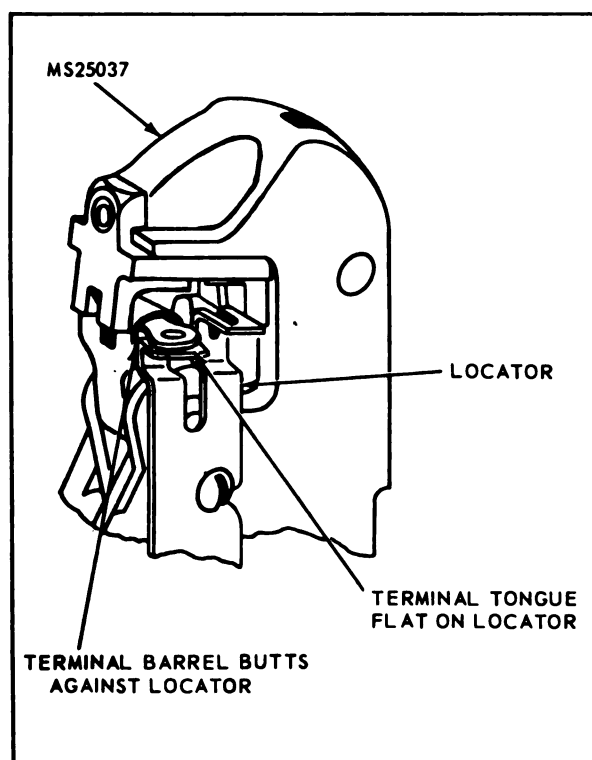

Figure 5-5. Inserting Terminal Lug into Hand Tool
c. Insert terminal lug, tongue first, into hand tool barrel crimping jaws, until terminal lug barrel butts flush against tool stop. See figure 5-5 for correct insertion method.